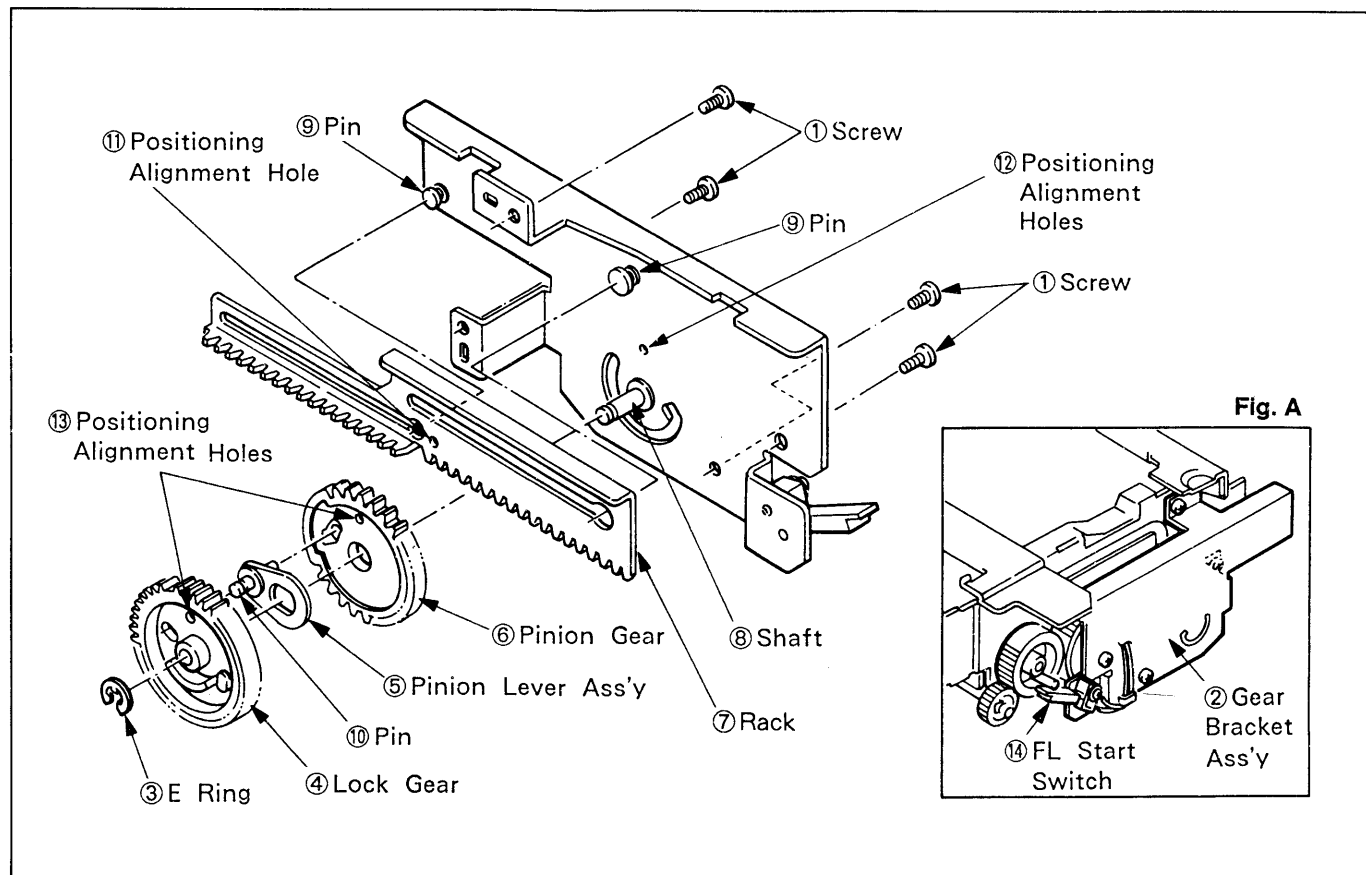

Fig. 5-2-2. Gear Bracket Ass'y
5-2-2. Gear Bracket Ass'y (See Fig. 5-2-2.)
Also set the hole ⑬ of the PINION GEAR and the LOCK GEAR with the hole ⑫ of the GEAR BRACKET by referring to Fig. 5-2-2. After mounting them, check to be sure that FL START SWITCH ⑭ is in the ON state shown in Fig. A.